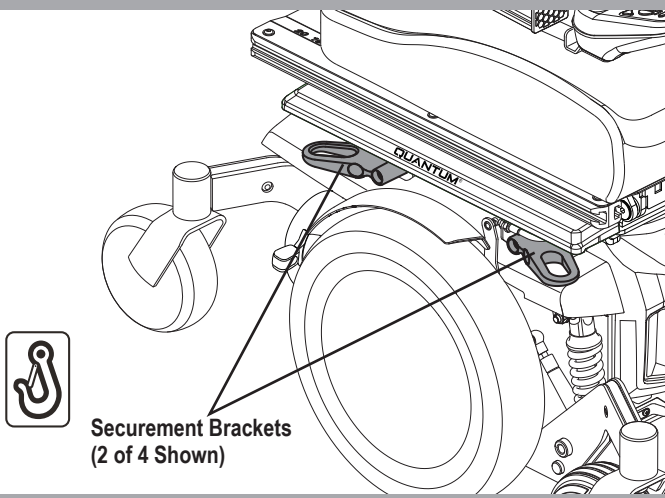

Figure 10. Transit System Securement Brackets
If your power chair is equipped with a transit securement system, it is equipped with manufacturer installed front and rear securement brackets and may be equipped with positioning belt anchoring brackets. **See figure 10.** Refer to the supplement provided with your power chair for information on how to use the transit securement system.
- Attach the four (4) tie-down straps to only designated, labeled transit securement points indicated by anchor symbols on the power chair. **See figures 10 and 11.** Tighten the straps sufficiently to remove all slack.